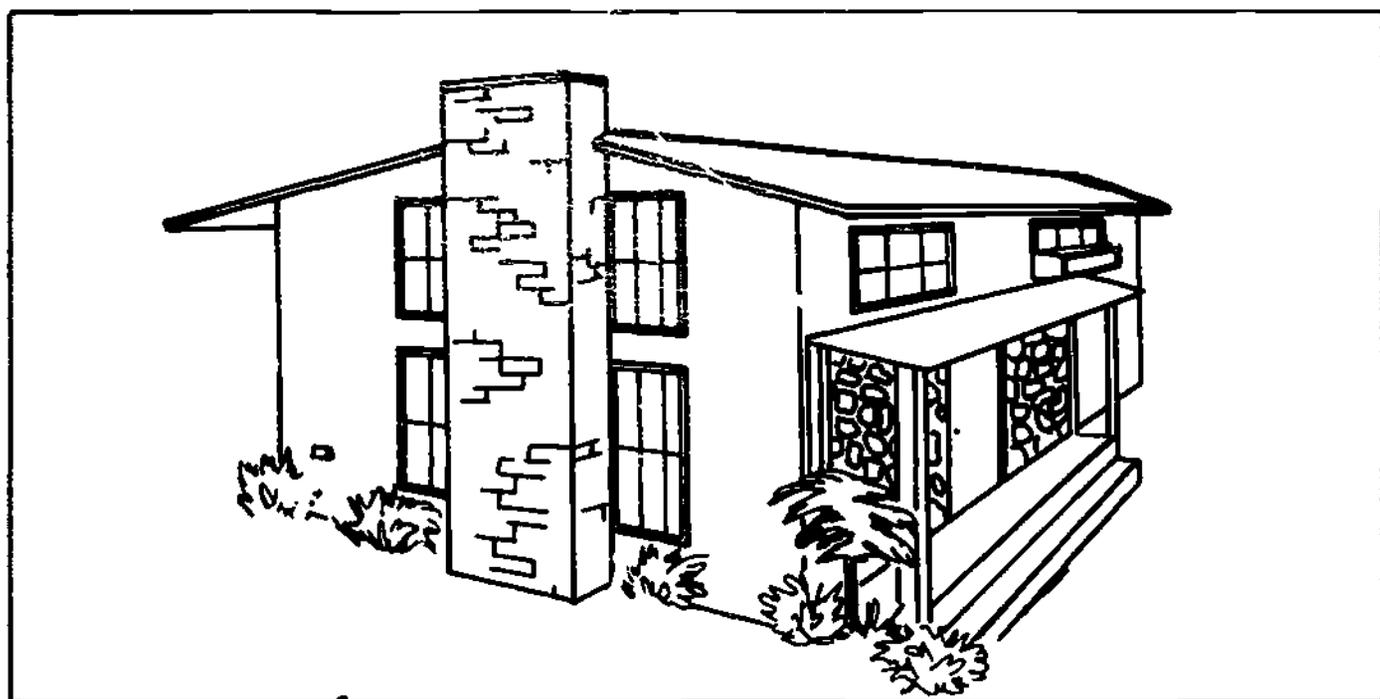

FIGURE 6
10. In figure 6, page 66, indicate the points where caulking may be needed.